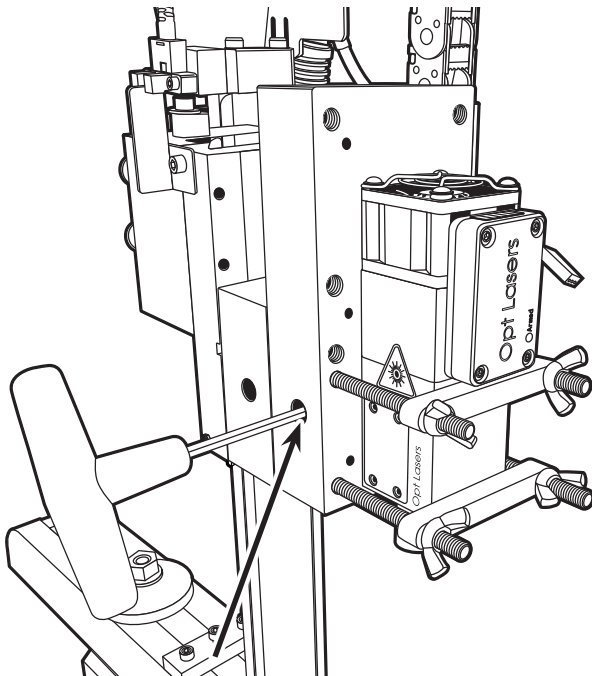

FIGURE 12—The arrow points to the access hole for the laser mount set screw.
4. Place the pivot pin into the 1/2" hole on the laser mount. Then slowly push the laser mount onto the pivot pin and onto the head key. The laser mount should push on until it is flush with the face of the column saddle. Once the laser mount is flush with the face of the column saddle, tighten the set screw on the side of the laser mount (see Figure 12). When the set screw makes contact with the pivot pin, it will pull the laser mount down securely against the face of the column saddle and lock it in place.